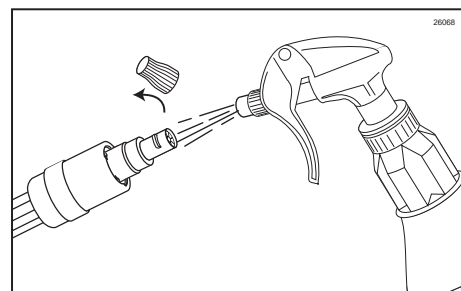

Figure 130
4. Remove the cap and spray the cap and Syrup Line Manifold opening with approved sanitizer solution. Allow them to sanitize for at least 1 minute. (See Figure 130.)